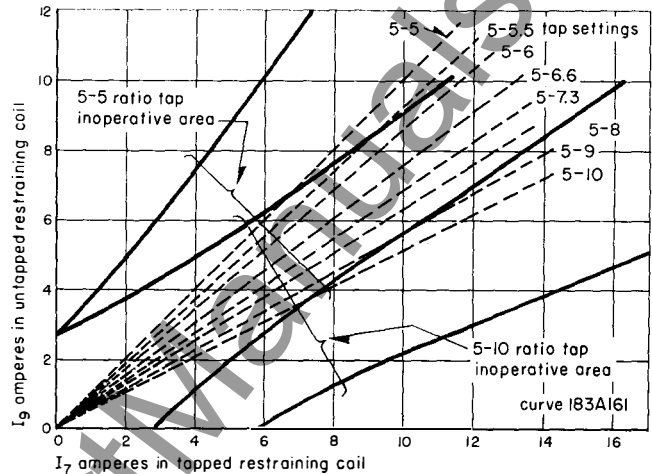

fig. 43: CA relay typical operating curves, low current values.
Operating characteristics of the CA relay for normal through load current and through fault current are shown in figures 43 and 44. When the currents flowing in and out of the relay are plotted on these curves and the point falls outside of the inoperative area the relay will trip.
In figures 43 and 44, the two curves going with the 5-5 tap are tied together with a bracket to indicate that these two curves go together. Similarly, the two curves for the 5-10 tap are also tied together. The center lines between pairs of curves are shown for all taps. The paired curves bounding the inoperative areas are not shown for the 5-5.5 through 5-9 taps. These curves may be approximately determined by using the following formula:
As an example of the accuracy of the formula, consider the point $I_7=43.5$ and $I_9=30$, and read from the lower curves for the 5-5 tap in figure 43. Applying the formula, equation (2), the calculated value of I_7 is found to be 45, which is fairly close to the curve value I_7 of 43.5.